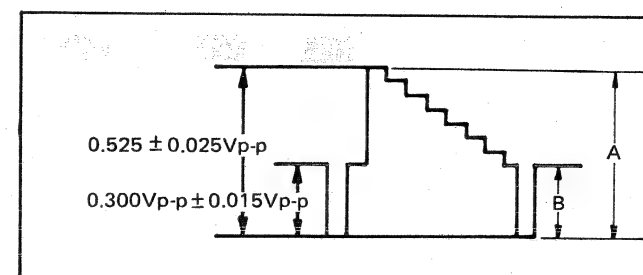

Fig. 16
3. Connect the oscilloscope to Y input terminal and set the output signal levels of PAL colour bar signal generator become "A" = $0.525 \pm 0.025\text{Vp-p}$ and "B" = $0.300 \pm 0.015\text{Vp-p}$ as shown in Fig. 16.